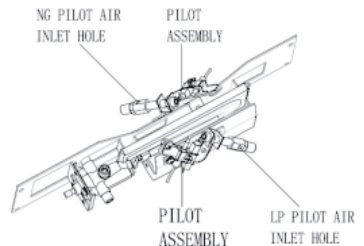

Figure 13
3. Blow air through the ports/slots and holes in the burner. Also clean the pilot assembly. A yellow tip on the pilot flame indicates dust and dirt in the pilot assembly. There is a small pilot air inlet hole about two inches from where the pilot flame comes out of the pilot assembly (see Figure 13). With the unit off, lightly blow air through the air inlet hole. You may blow through a drinking straw if compressed air is not available.